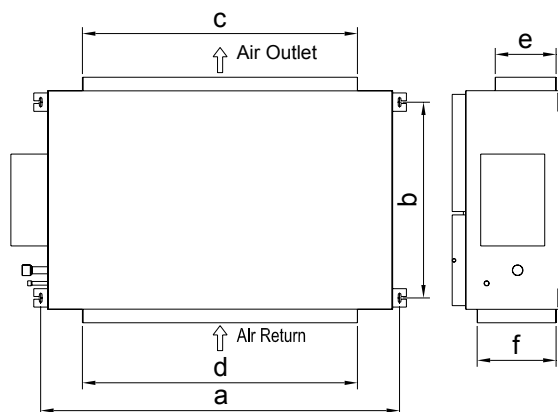

Fig. 19 Indoor unit installation position and dimension
1). The dimensions of installation hole and the intake/outlet port are shown in Fig. 19 and Table 1.
For easy drainage of the condensation water, the should be installed with a downward gradient. To avoid the condensation, the connection pipe joint should be insulated with thermal insulation material. A water seal should be employed as shown in Fig. 19 and the height of the water seal could be determined by the pressure of the drain hose.